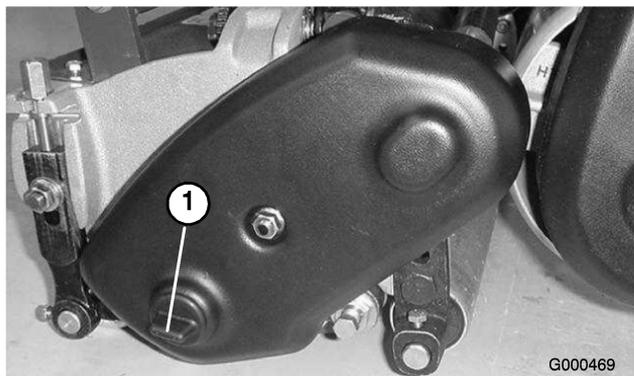

Figure 56
1. Remove plug from the reel drive cover on the left side of reel assembly (Figure 56)